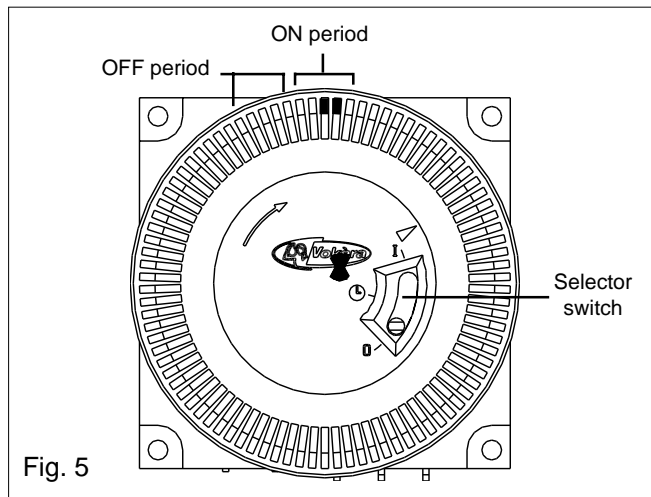

Fig. 5
- Repeatedly press the Prog. Button until the — :— symbol appears in the clock display (fig. 5).